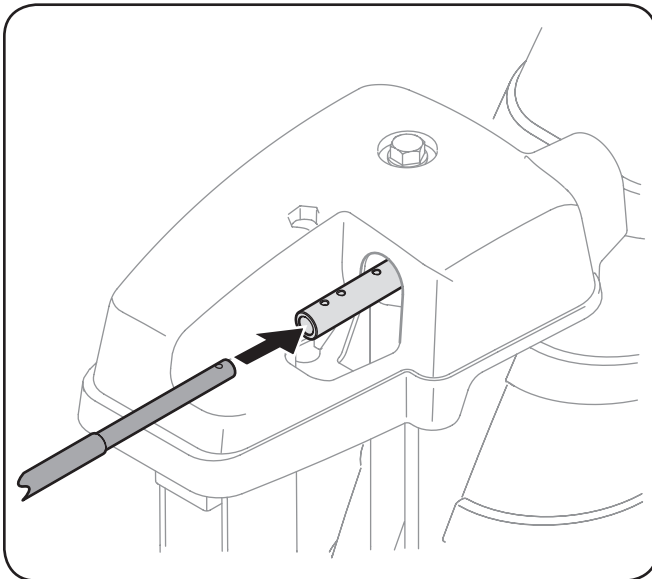

Figure 3-4
2. Insert round end of the chute control rod into chute control head. Push rod as far into chute control head as possible, keeping the holes in the rod pointing upward. See Figure 3-4.